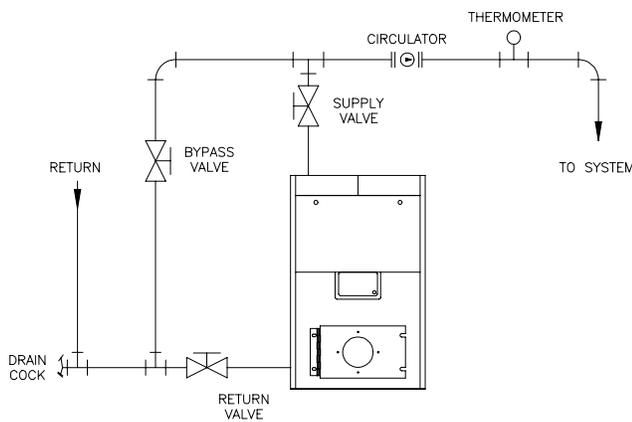

Figure 4: Recommended System Bypass Piping
- d. Use a system bypass if the boiler is to be operated in a system which has a large volume or excessive radiation where low boiler water temperatures may be encountered (i.e. converted gravity circulation system, etc.) The bypass should be the same size as the supply and return lines with valves located in the bypass and return line as illustrated in Figure 4 in order to regulate water flow for maintenance of higher boiler water temperature. Set the bypass and return valves to a half throttle position to start. Operate boiler until the system water temperature reaches its normal operating range. Adjust the valves to maintain 180°F to 200°F boiler water temperature and greater the 120°F return temperature. Adjust both valves simultaneously. Closing the boiler return valve while opening the bypass valve will raise the boiler return temperature. Opening the boiler return valve while closing the by-pass valve will lower the boiler return temperature.